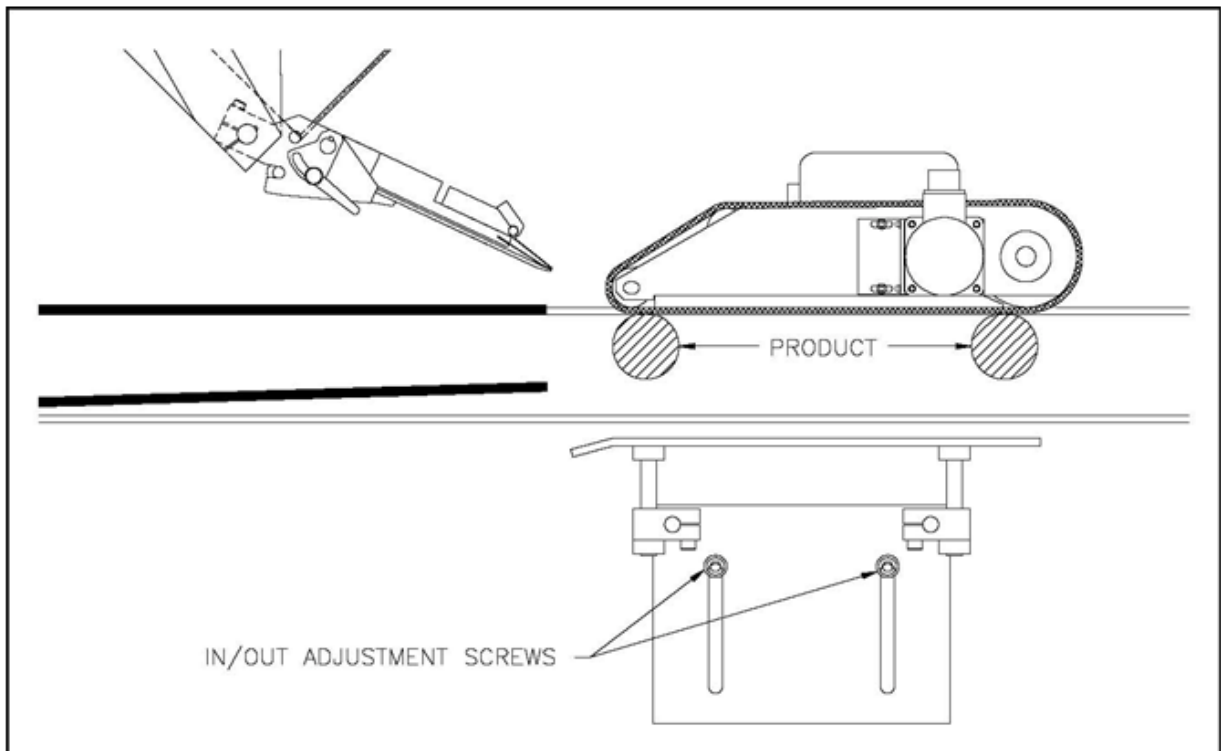

Figure 51 Pressure Bar IN/OUT Position
1. If necessary, loosen the mounting screws to position the pressure bar as shown in Figure 51. Do not fully tighten the screws at this time.
(Refer to Figure 51).
3. Place a product at each end of the wrap belt. Refer to Figure 51.